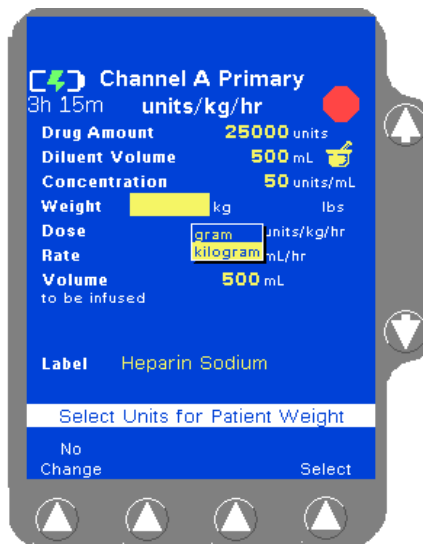

Figure 4-47 Weight Unit Pop-up
4. For small patients, weight can be entered in grams (or ounces) if appropriate. To change weight units, highlight the **Weight** field, press the **Units** soft key to display the weight units list (Figure 4-47), highlight the desired weight unit, then press the **Select** soft key.